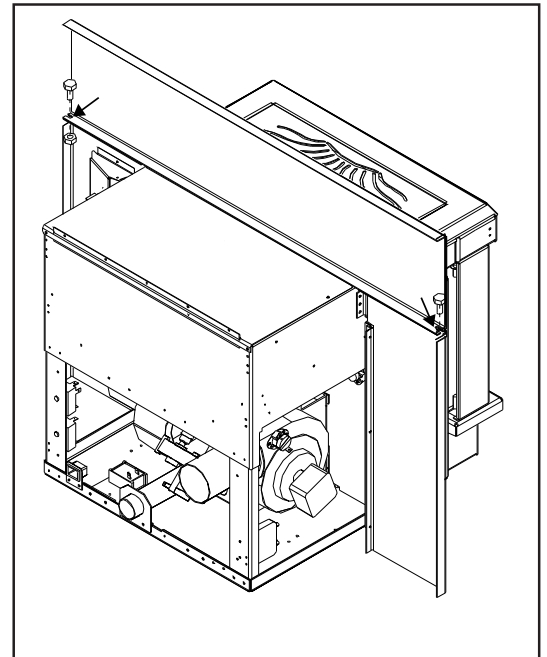

Figure 31: Assembling the Surround Panel, back view.
5. Insert each side panel anchor bolt through the top panel into the corresponding side panel holes and tighten using a  $\frac{7}{16}$ " wrench or socket (refer to Figure 31).